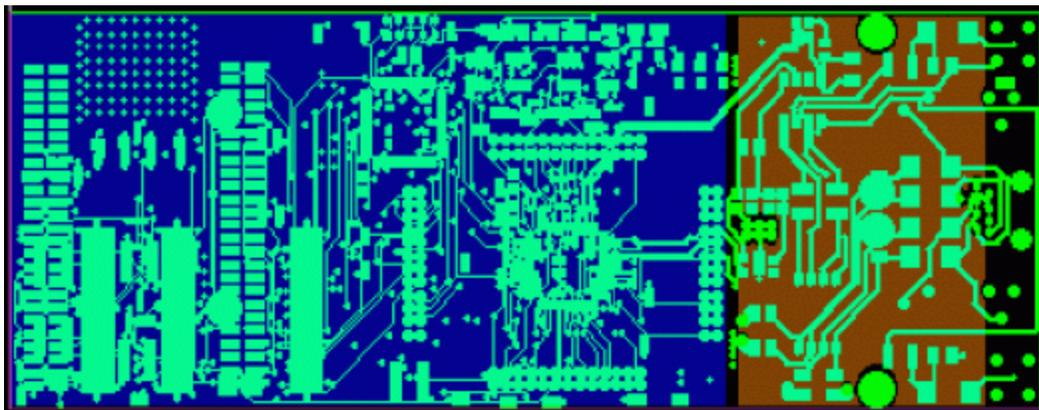

Figure 2. Thermal plane (reddish-brown color) on 2-port T1/E1 card.
**Figure 2** is a Gerber file that shows the typical layout of a thermal plane. Note how the thermal plane covers a large area of the PC board. This thermal plane should be placed inside the PC board at the next layer from the surface layer. The thermal plane should not be connected to any other plane because it lies under the magnetics.